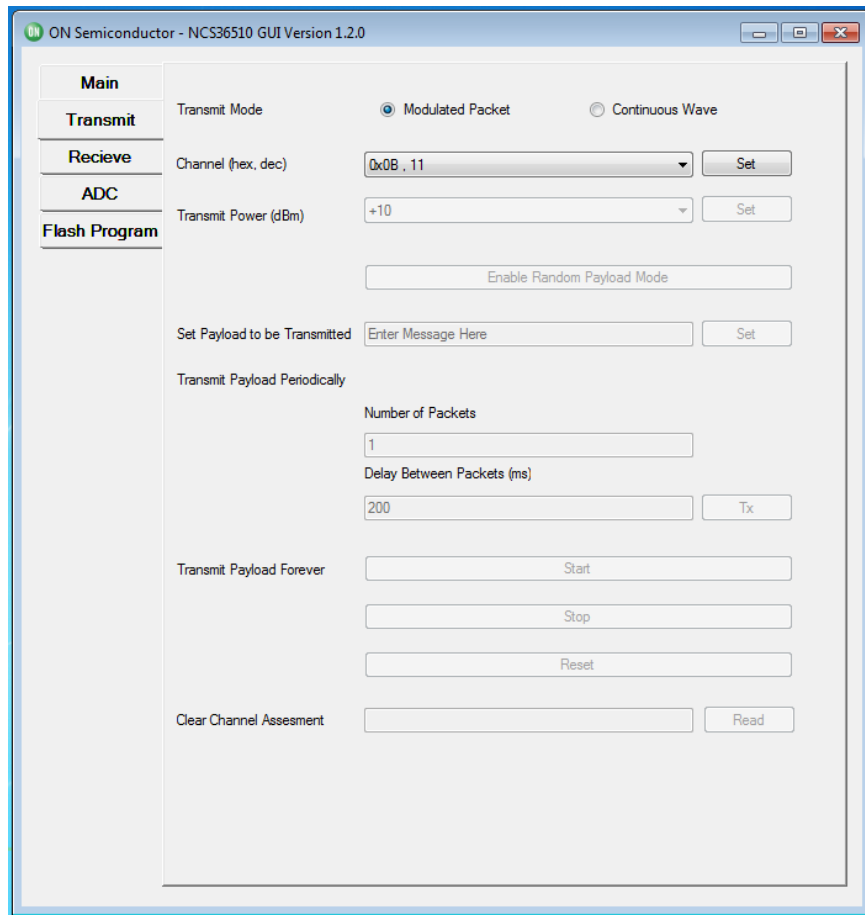

Figure 6. GUI-Transmitter-Interface
2. From the default “Main” tab select the “Transmit” tab. The “Transmit” page will look as shown in Figure 6.
2. From the default “Main” tab select the “Transmit” tab. The “Transmit” page will look like section “GUI Example – Transmitter”, Figure 6.
2. From the default “Main” tab select the “Transmit” tab. The “Transmit” page will look like the one shown in Section: GUI Example – Transmitter, Figure 6.